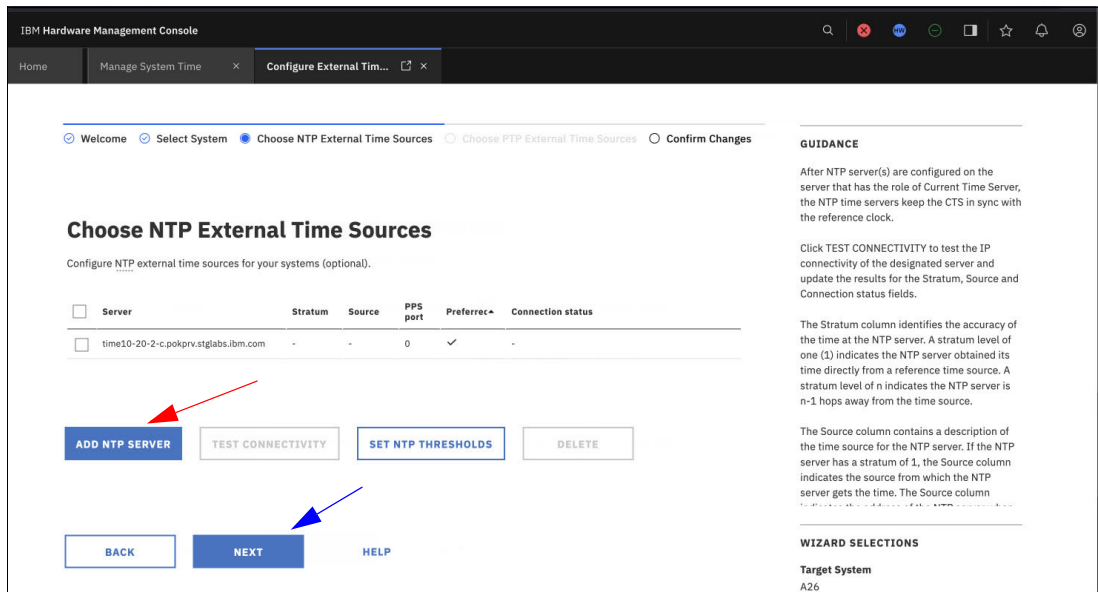

Figure 4-33 Adding another NTP server
5. Add a second NTP source by repeating the operation (Figure 4-33 on page 85).